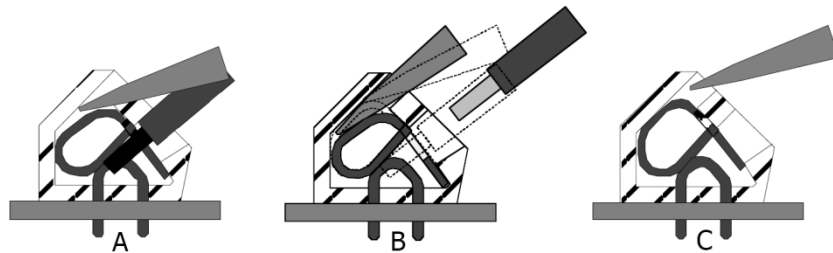

Figure 64 Removing connections in screwless spring-loaded terminals
- Place a size 1 screwdriver in the upper opening and insert it turning slightly upwards (figure 64 A).
- Then draw the wire from the lower opening (figure 64 B).
- Withdraw the screwdriver (figure 64 C).